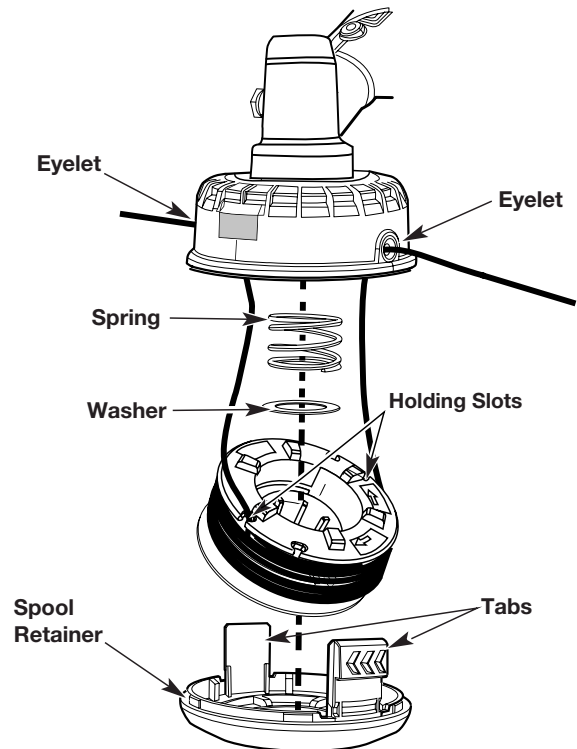

Fig. 14
1. Push in the tabs on the side of the spool retainer and pull to remove (Fig. 14).
5. Install the spool retainer by pressing the tabs into the slots and pushing down on the spool until the spool retainer clicks into place (Fig. 14).
6. Position the lines in the spool holding slots (Fig. 14).